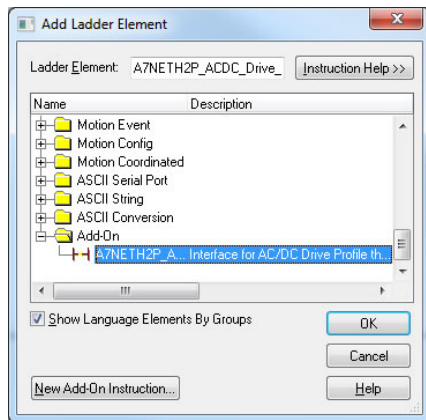

Figure 53: Add AC/DC Drive Profile Add-On Instruction
- 8) Select the AC/DC drive profile add-on instruction in the Add-On folder. Refer to Figure 53.